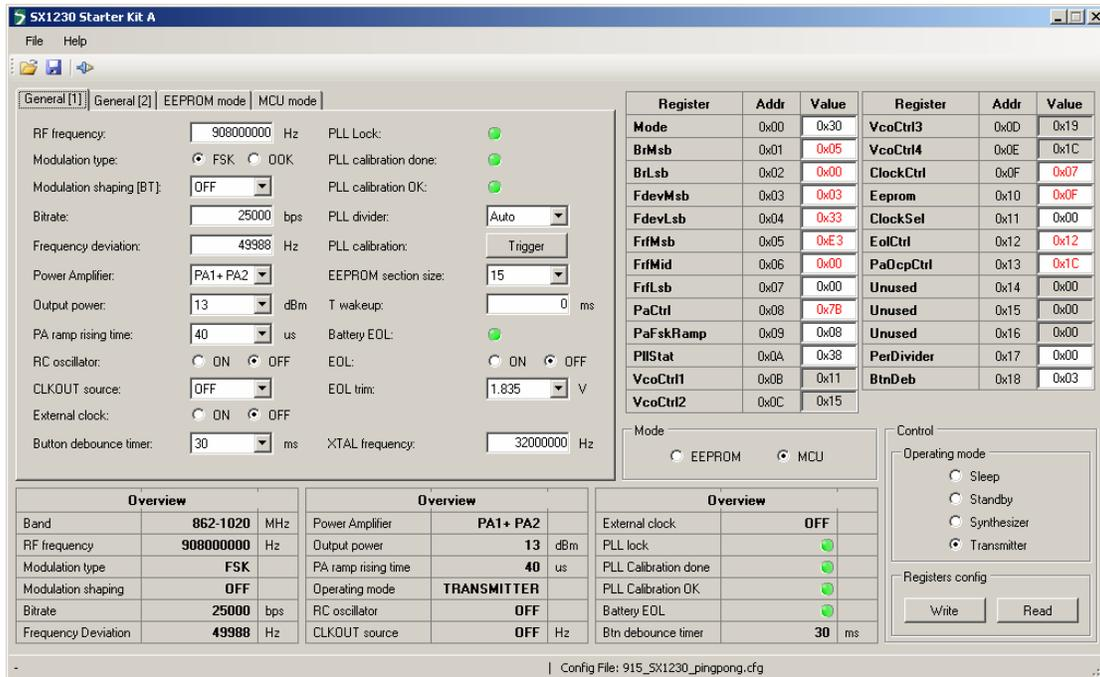

Figure 10. The New SX1230 Configuration: Ready to be Written
- The display will then appear as shown in Figure 10. These are the link parameters which match those which will be programmed to the SX1211SKA.